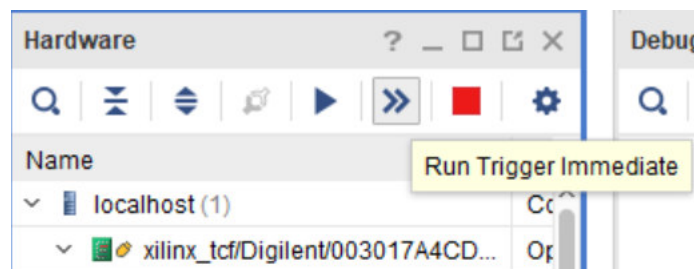

Figure 12: Opening the waveform window
9. Select the **xc7z020\_1** and click on the **Run Trigger Immediate** button to see the signals in the waveform window (Figure 12).